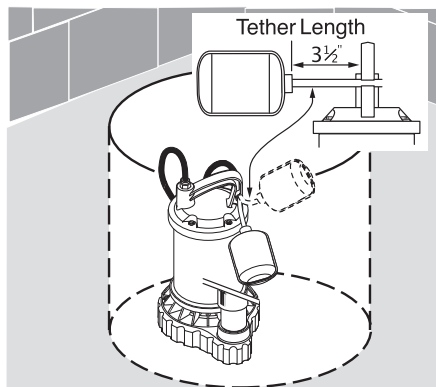

Figure 3
3. Place the pump in the sump; make sure that nothing interferes with switch operation. For tethered switch models, the tether length should be 3-1/2" (See Figure 3).